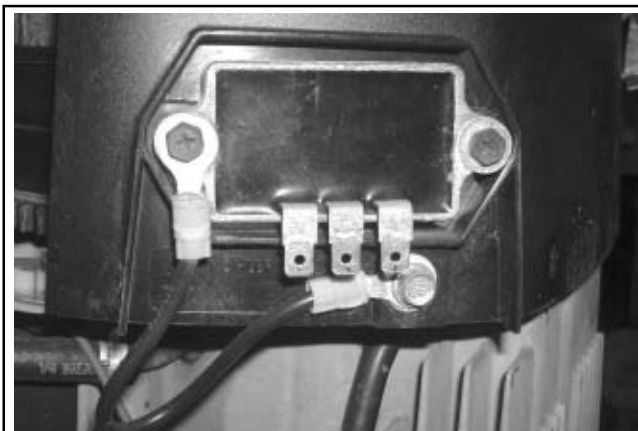

Figure 11-64. Rectifier-Regulator Ground Details.
1. Install the rectifier-regulator in the blower housing if removed previously, then connect the rectifier-regulator ground lead with the washer and the silver screw through the eyelet as shown. If a grounding bracket is used, secure with the mounting screw and washer, against the **outer** side of the rectifier-regulator. See Figure 11-64.